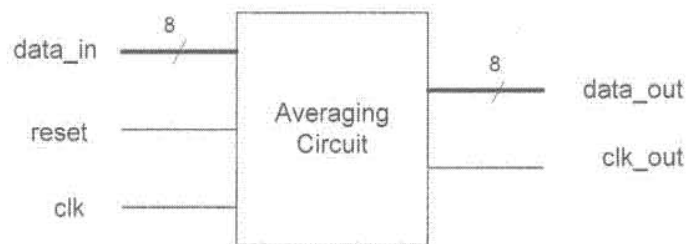

Figure 5.1
5. *Figure 5.1* shows an averaging circuit that computes the average of every four consecutive samples of an eight bit data stream *data_in* according to the equation: